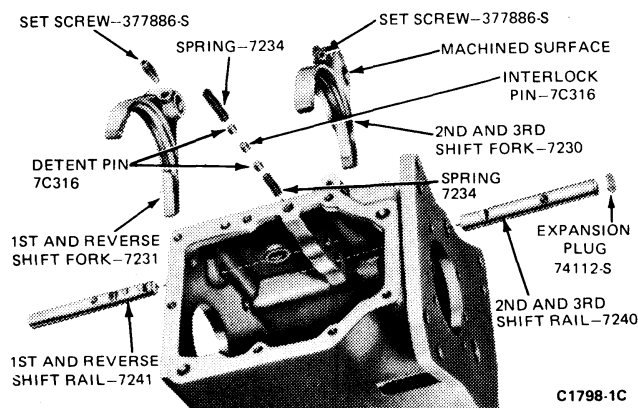

FIG. 17 Shift Rails and Forks—Disassembled
3. Remove a long spring that retains the detent plug in the case (Fig. 17). Remove the detent plug with a small magnet.
14. Lift the interlock plug (Fig. 17) from the case with a magnet.
15. Tap on the inner end of the second- and third-speed shift rail to remove the expansion plug (Fig. 17) from the front of the case. Remove the shift rail.
12. Place a detent plug spring and a plug in the case (Fig. 17). Place the second- and third-speed synchronizer in the second-speed position (toward rear of transmission). Align the fork and install the second- and third-speed shift rail. It will be necessary to depress the detent plug to enter the rail in the bore. Move the rail inward until the detent plug engages the forward notch (second-speed position).